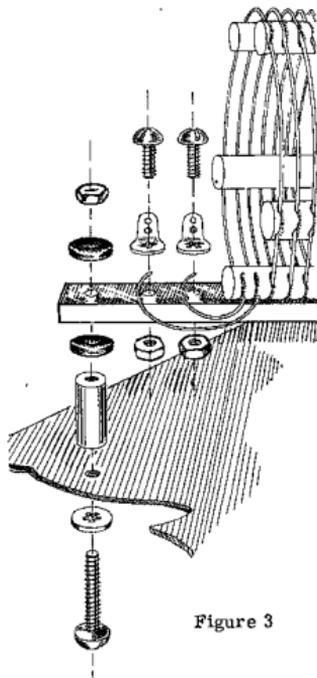

Figure 3
- (✓) Mount four #6 solder lugs on the polystyrene bar of both bifilar coils using four 6-32 x 3/8" screws and 6-32 nuts. See Figure 3. Position the solder lugs as shown in Pictorial 1. Do not overtighten.
- (✓) Place a #8 lockwasher on each of the four 8-32 x 1 1/2" screws. Insert the four screws through the 5/32 holes provided in the chassis. Slip a #6 x 3/4" spacer and a #6 flat fiber washer over each of the screws. Mount the bifilar coils, placing #8 flat fiber washers under each nut, as shown in Figure 3. Do not overtighten. Note the position of the solder lugs on the bifilar coil bars in Pictorial 1.